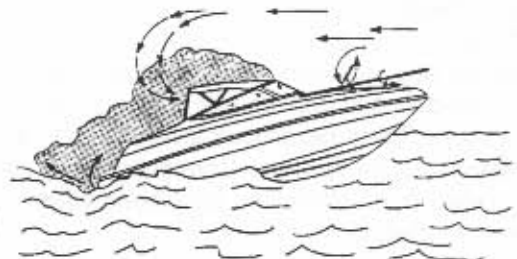

FIGURE H5: INEFFICIENT TRIM ANGLES.
1. Inefficient trim angle. See Figure H5.